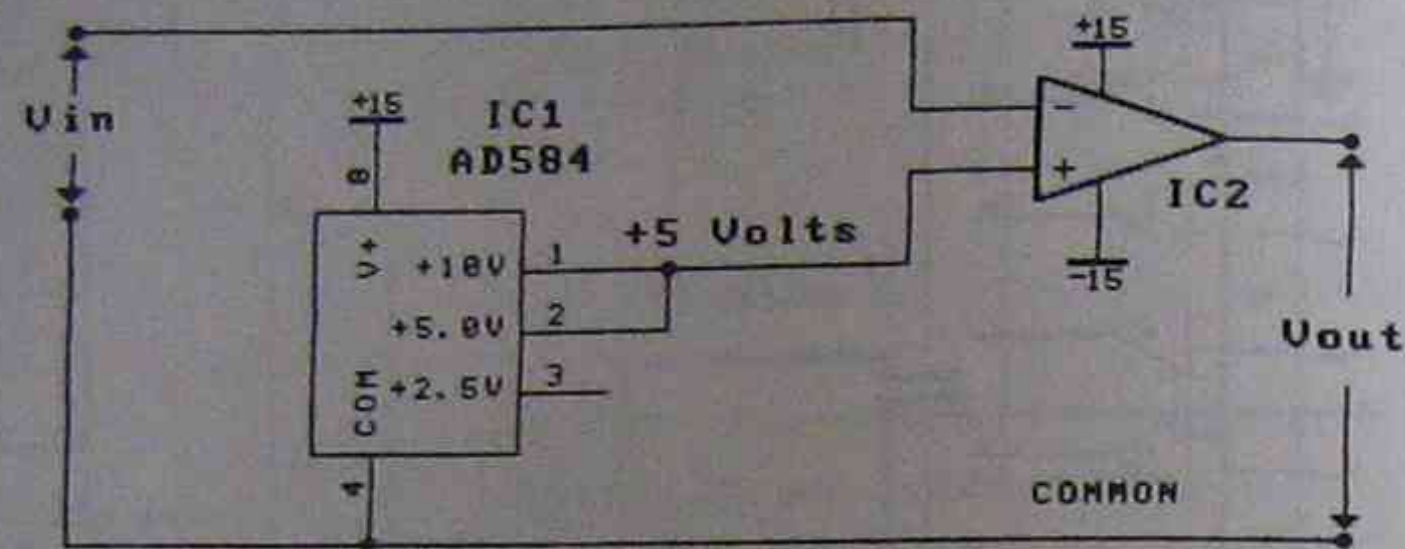

Fig.1.
1. For the circuit of Fig.1, sketch the input and output waveforms on a common time scale, if an 11Vp-p, 1kHz sine wave is applied to the input.